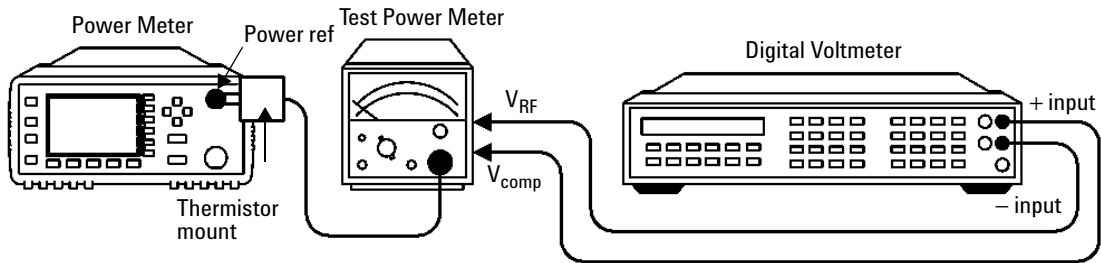

Figure 2-6 Power Reference Level Test Setup
- 2 Round off the DVM reading to two decimal places and note this value as the internal bridge resistance (R) of the Agilent 432A (approximately 200 Ω).
- 3 Connect the equipment as shown in Figure 2-6, ensuring that the DVM input leads are isolated from chassis ground.